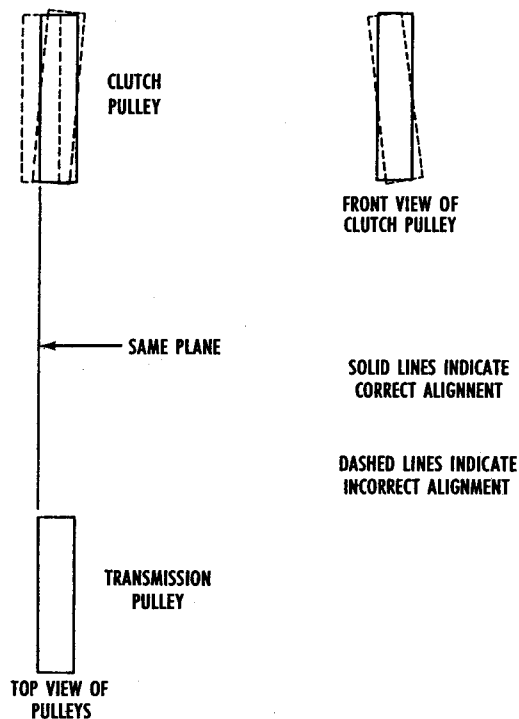

FIG. 2 SKETCH OF PULLEY ALIGNMENT
- Fig. 2. Sketch of Pulley Alignment.
- 8.6 Rest the edge of a straightedge across the outer face of the transmission drive pulley (2) (Fig. 17) on the upper half of the pulley, and extend the straightedge to the clutch pulley outer face immediately above the clutch lining (18) (Fig. 16). Care should be exercised to avoid chipping the carbon clutch lining. To adjust the lateral position of the clutch pulley, loosen nut (21) (Fig. 18) and rotate the motor pivot rod (25) at the flattened end with a wrench. By holding the straightedge firmly against the drive pulley, it may be observed whether or not the clutch pulley is in a line with the drive pulley. By making the same observation with the straightedge on the lower portions of the pulleys, it may be determined whether or not the entire motor and clutch assembly requires tipping or shimming. To tip the motor loosen four screws (11) (Fig. 18). To shim the motor, loosen the screws and insert shim stock where needed. It is essential that both pulleys are in the same plane (see Fig. 2).